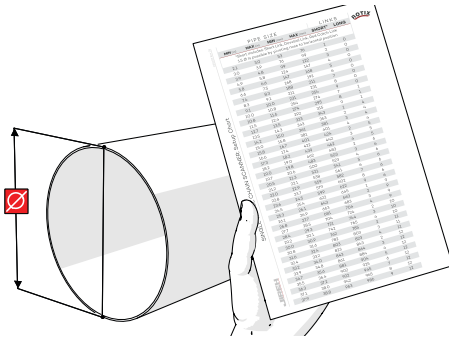

Fig. 15 - Refer to setup chart
1. Determine the diameter of the pipe or tube to be scanned. Included in the **ROTIX** kit is a setup chart which will indicate the number of links required based on the diameter of the pipe or tubing (Fig. 15).